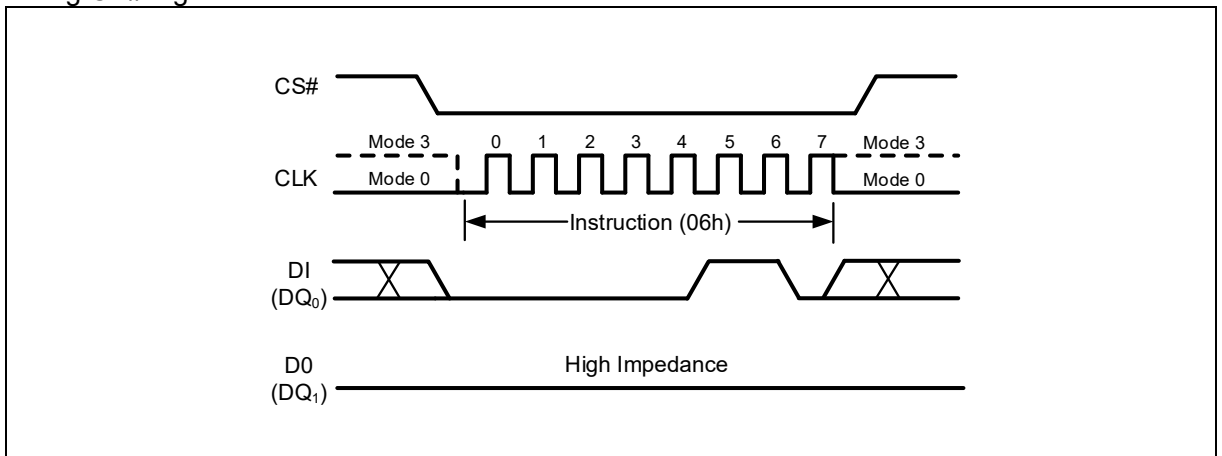

Figure 6 Write Enable Instruction for SPI Mode
Instructions vary in length from a single byte to several bytes and may be followed by address bytes, data bytes, dummy bytes (don't care), and in some cases, a combination. Instructions are completed with the rising edge of edge CS#. Clock relative timing diagrams for each instruction are included in Figure 6 through Figure 47. All read instructions can be completed after any clocked bit. However, all instructions that Write, Program or Erase must complete on a byte boundary (CS# driven high after a full 8-bits have been clocked) otherwise the instruction will be ignored. This feature further protects the device from inadvertent writes. Additionally, while the memory is being programmed or erased, or when the Status Register is being written, all instructions except for Read Status Register will be ignored until the program or erase
The Write Enable (WREN) instruction (Figure 6) sets the Write Enable Latch (WEL) bit in the Status Register to 1. The WEL bit must be set prior to every Page Program, Quad Page Program, Sector Erase, Block Erase, Chip Erase, Write Status Register and Erase/Program Security Sectors instruction. The Write Enable (WREN) instruction is entered by driving CS# low, shifting the instruction code “06h” into the Data Input (DI) pin on the rising edge of CLK, and then driving CS# high.